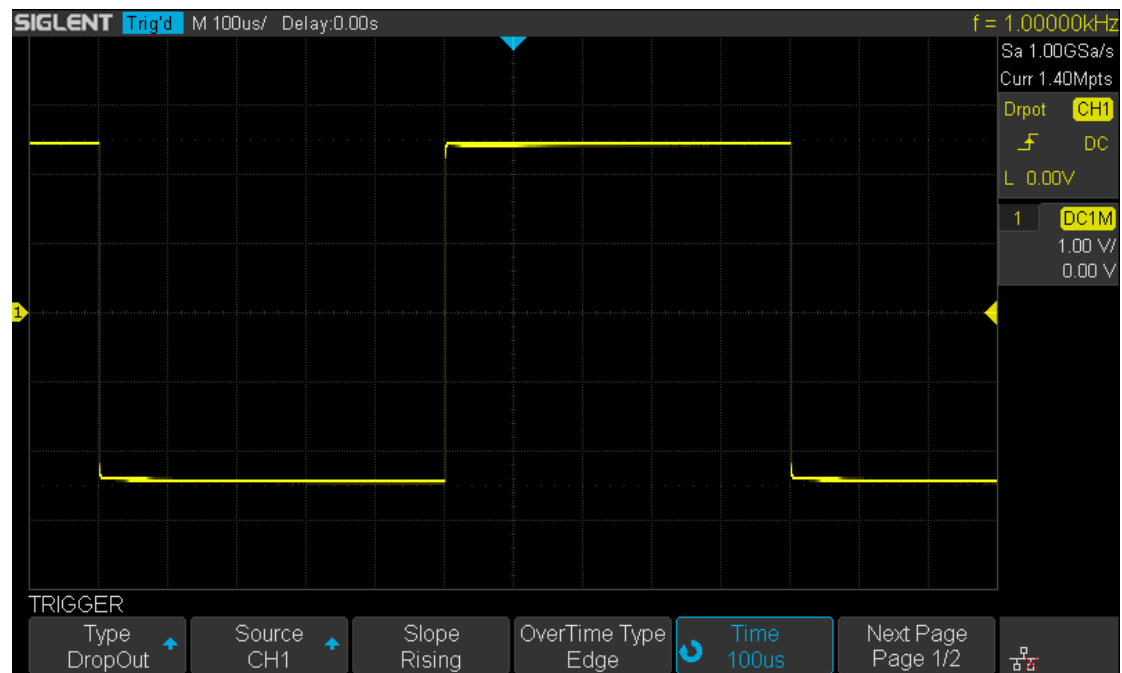

Figure 34 Edge DropOut Trigger
1. Press **Decode** key to enter the **DECODE** function menu as Figure 34 shows.